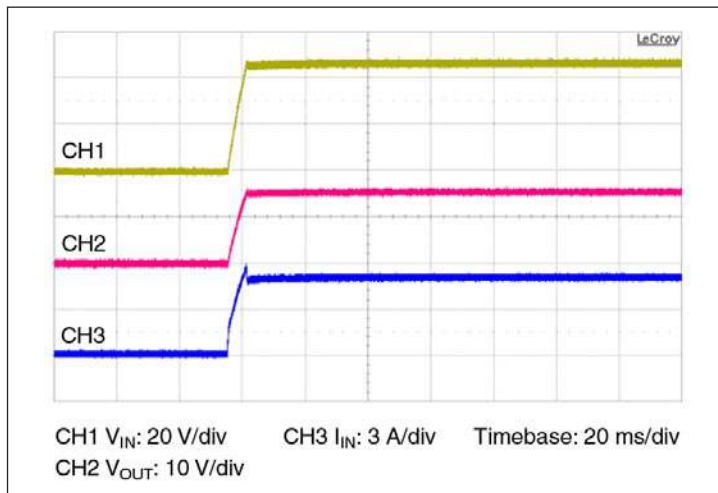

Figure 10 — Start up from application of  $V_{IN}$ ; VC pre-applied  $C_{OUT} = 800 \mu F$
- **Normal operation (VC applied prior to VIN):** In this case the controller is active prior to ramping the input. When the input voltage is applied, the VTM module output voltage will track the input (See Figure 10). The inrush current is determined by the input voltage rate of rise and output capacitance. If the VC voltage is removed prior to the input reaching 26 V, the VTM may shut down.